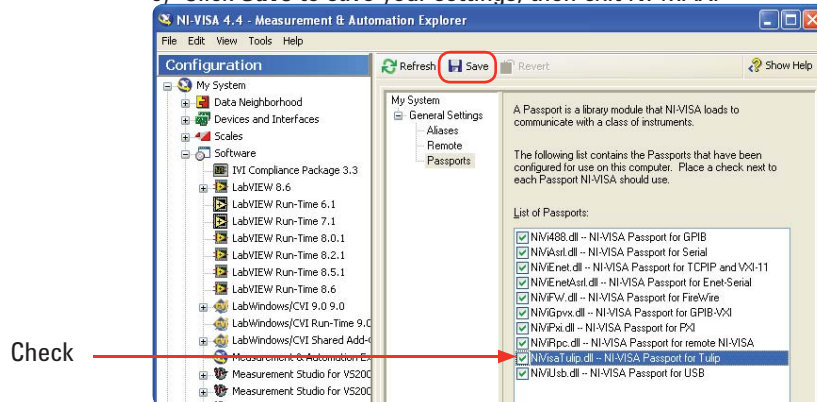

Figure 10. Enabling the NI-VISA Passport for Tulip
- Select the **Passport for Tulip (NIVisaTulip.dll)** check box. See Figure 10.